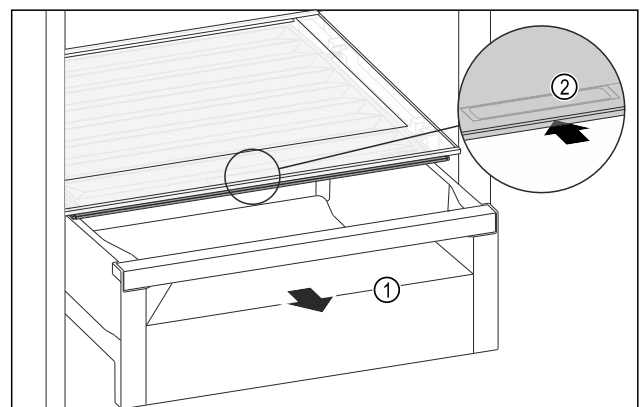

Fig. 219
- ▶ Pull out the drawer Fig. 219 (1).
- ▶ Grasp the recessed grip Fig. 219 (2) on the compartment lid and push the compartment lid backwards at the same time.